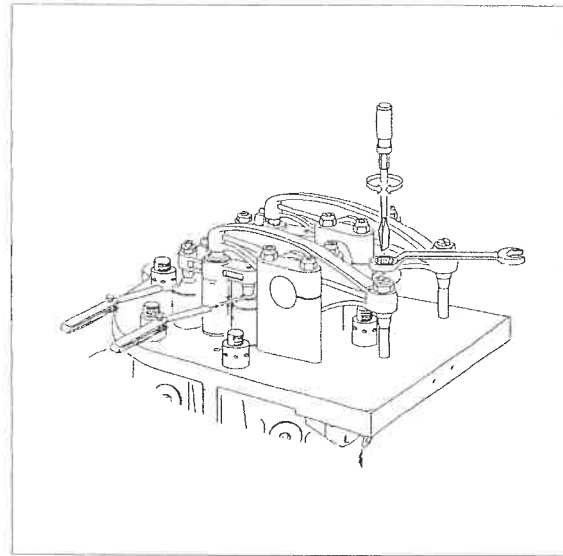

Fig 2.
- 6) Place another feeler gauge, at the same size 0,50 mm above the other valve spindle, see fig 2.
- 7) Adjust the clearance between valve bridge and valve spindle by means of the adjustment screw on the valve bridge, and tighten the lock nut, see fig 2.